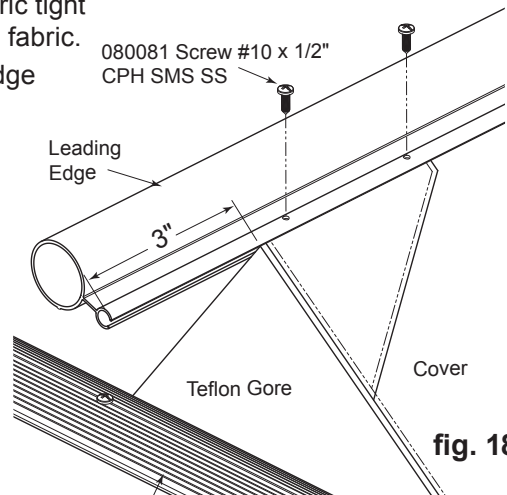

fig. 18
8.1 Install the fabric to the leading edge. (fig. 18)
- 8.2.1 Insert the wheel assembly plug into the leading edge. (fig. 18)